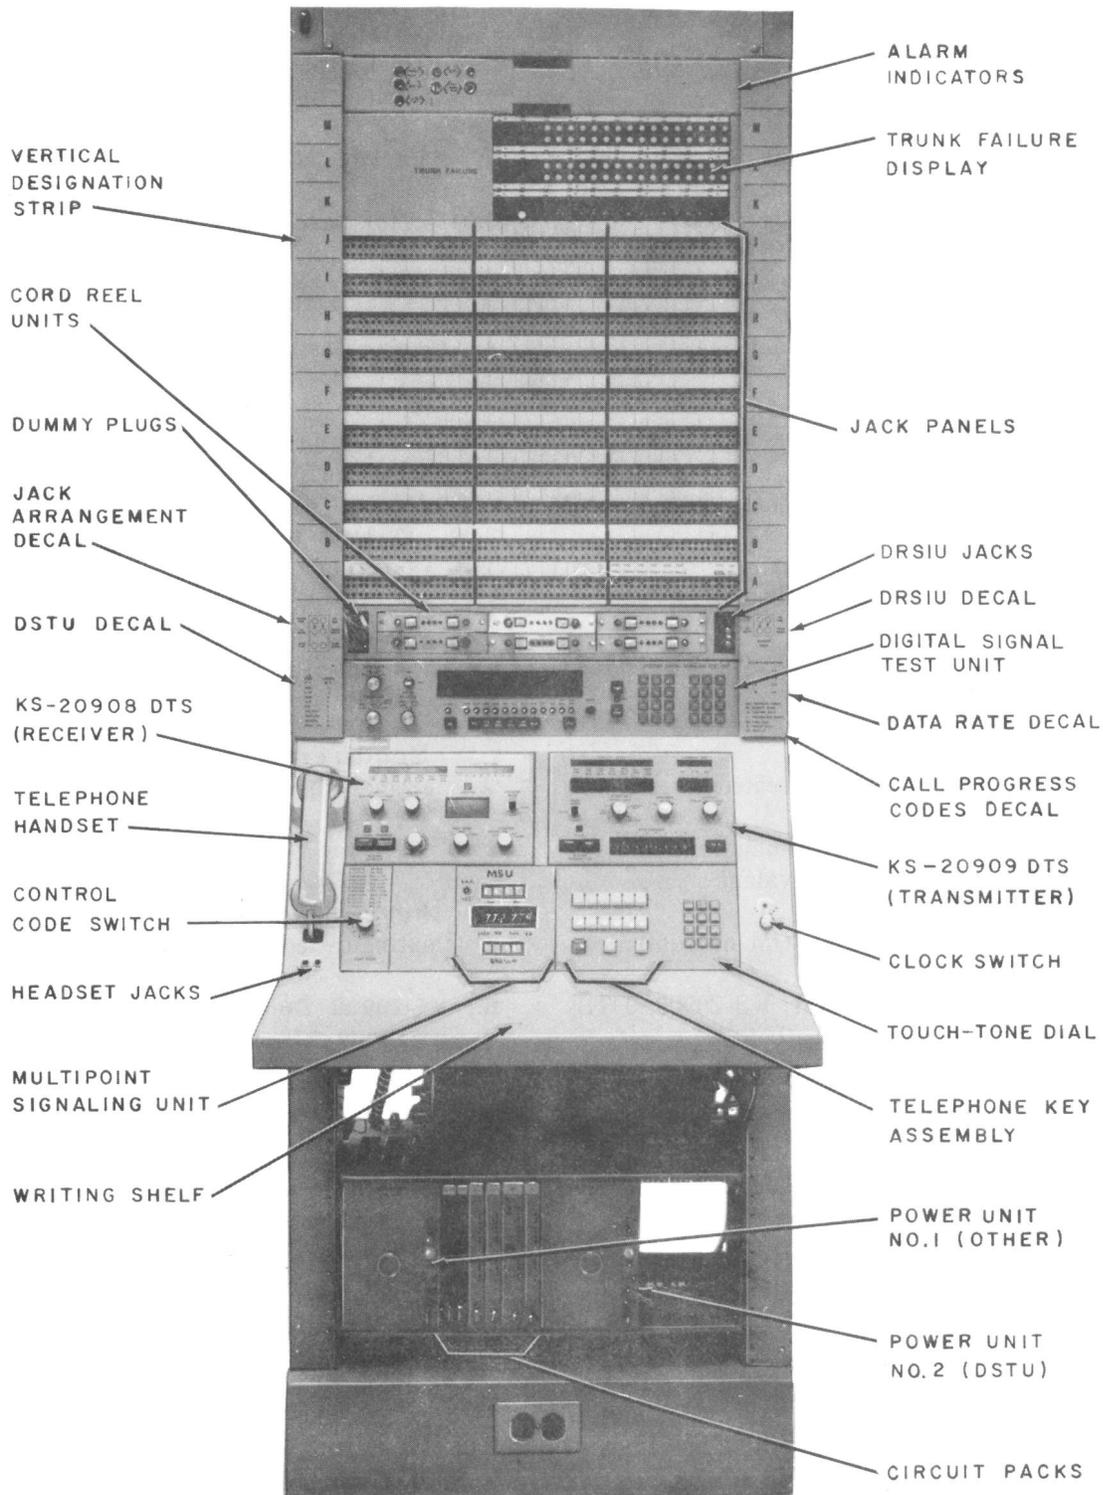

Fig. 1—Overall View of 950B Testboard
**3.01** This part contains procedures for using the test equipment to test the components in a 950B testboard (Fig. 1).